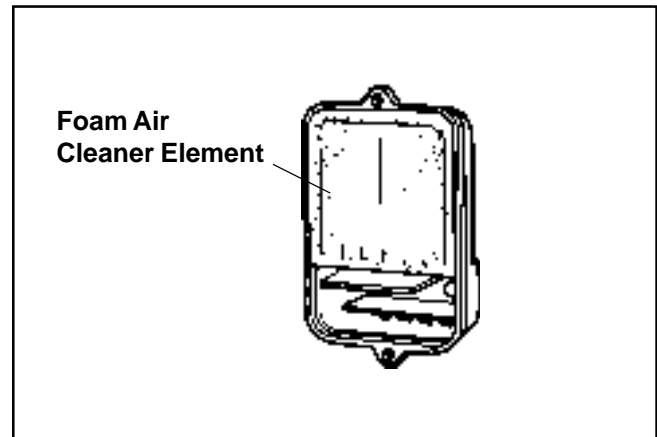

Figure 4-17. Foam Air Cleaner Element Details.
2. Remove the foam element from the air cleaner housing. See Figure 4-17.
6. Make sure the square metal fitting plate is properly positioned within the case. See Figure 4-17.